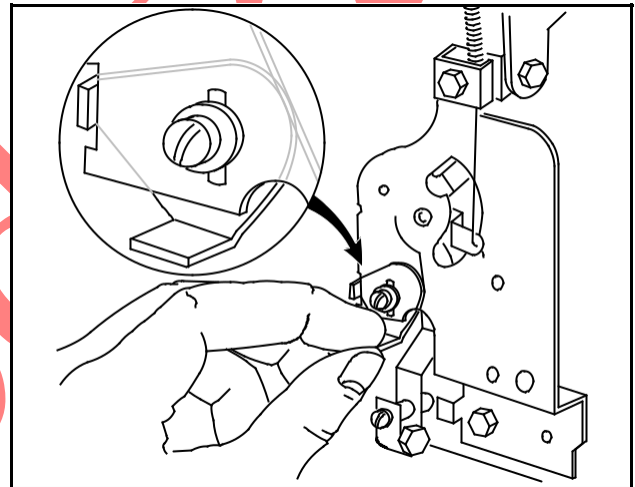

Fig. 66
2. Loosen governed idle stop and place against remote control lever, Fig. 66.